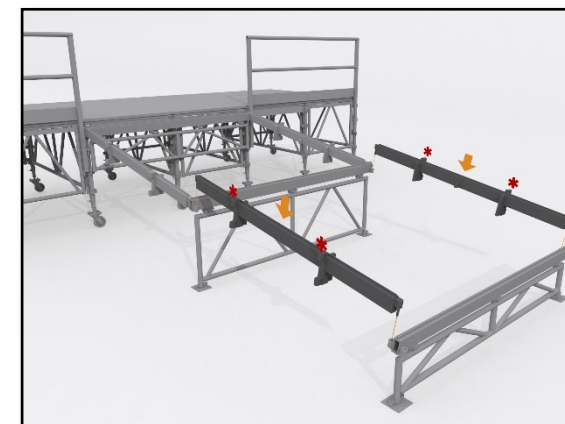

Fig. 45 - Secondary Beam Type One's
9.5.17 Between the 2 off Primary Beam Type Two's fit 2 off Secondary Beam Type One's using the connections at each end. Ensure the handrail mounting points are facing the outside. *Fig. 45 - Secondary Beam Type One's*